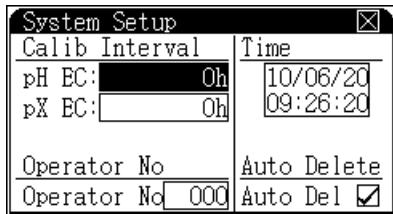

Figure 16 The System Setup screen
- 4 The **System Setup** screen appears on the display. See Figure 16.
- Use the arrow keys to highlight the Time field shown in Figure 16 on page 32 and press [**Setup**].